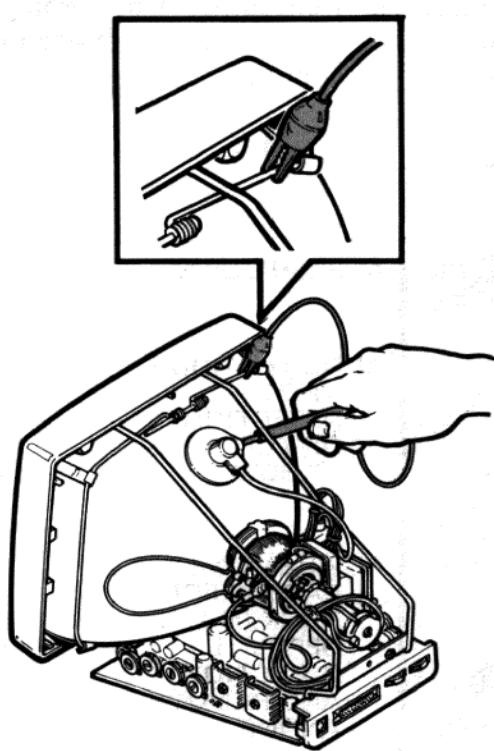

Figure 5-41 Discharging CRT Anode
- a. Clip the anode discharge tool to the wire frame of the monitor assembly as shown in Figure 5-41.
- b. Slide the tip of the anode discharge tool or test probe under the rubber boot, as shown in Figure 5-41. Hold for a full 3 seconds.